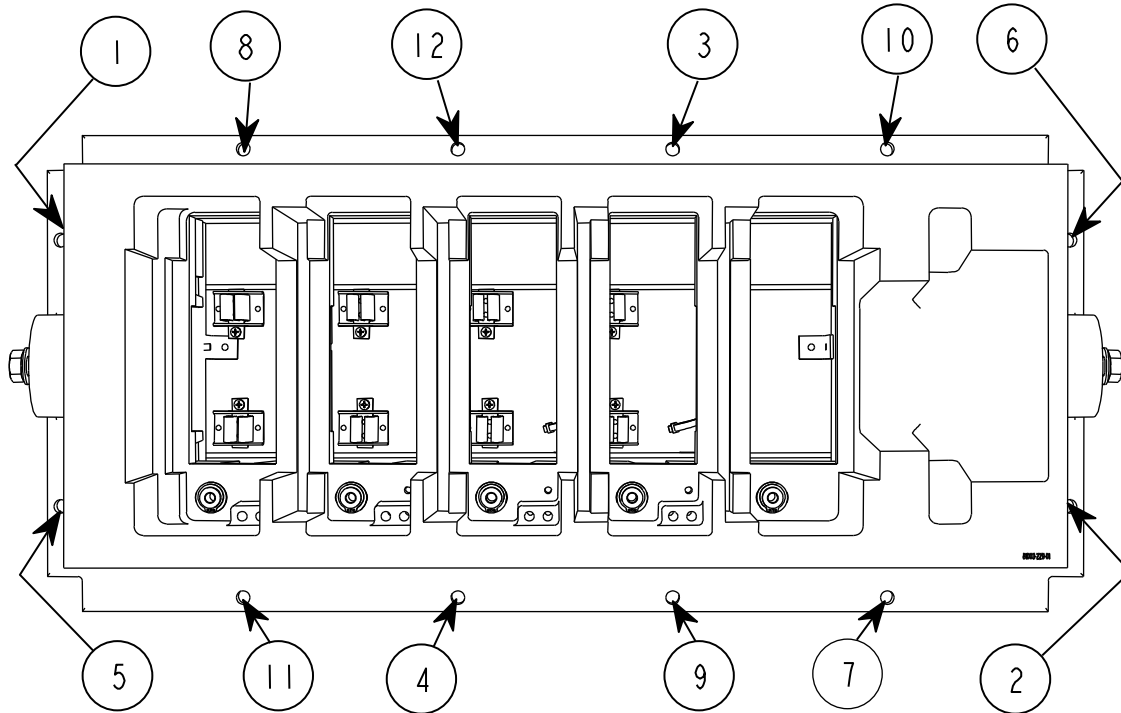

Figure 4.32 – Typical Torque Sequence
4. When replacing the PowerCage, it is important to place the bolts on the outer flange loosely. Torque bolts alternately on one flange and then the opposite flange to ensure even tightening of the module. A suggested sequence for torquing PowerCage bolts is shown in Figure 4.32.